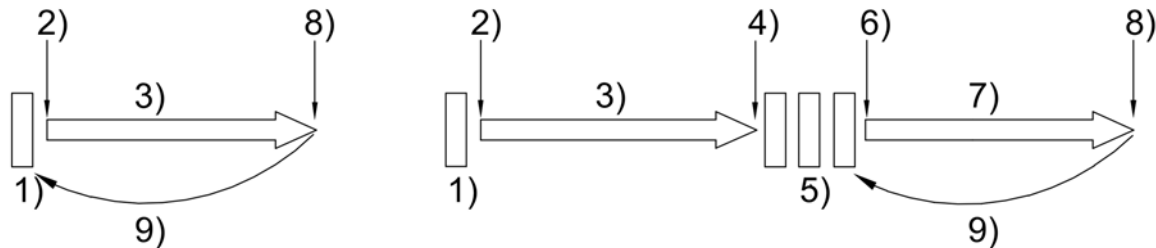

Fig. 7
- Fig. 7 shows the relationship between the PLAY and back CUE operations.